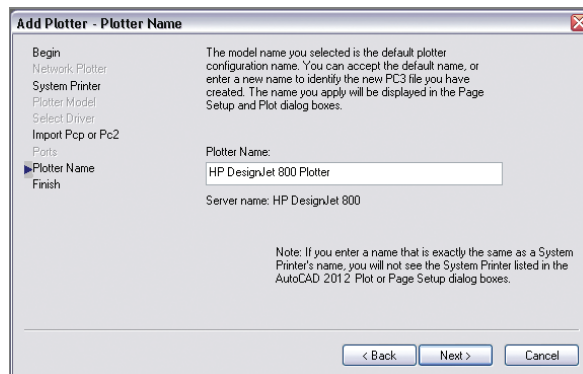

FIGURE 14.4 Giving the plotter a unique name
6. AutoCAD now suggests a name for the plotter that is identical to the name of the system printer. Type the name **HP DesignJet 800 Plotter** to differentiate the new printer name from the system printer (see Figure 14.4). Click Next.